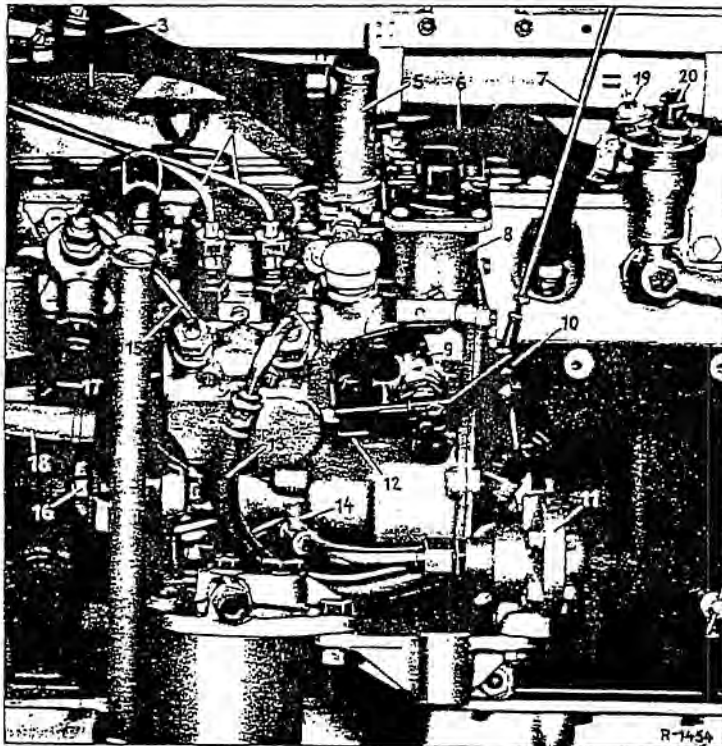

Fig. 00-14/3
4. Measure the fuel feed pump output: remove dummy plug from closed line and put end of line in a measuring beaker (Fig. 00-14/1).